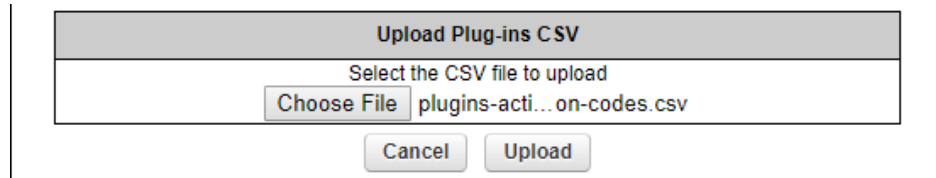

Figure 75. MANAGE PLUG-INS DIALOG (Upload Plug-ins CSV section)
7. Upload the *.CSV file to the unit by clicking the **Choose File** button in the **Upload Plug-ins CSV** section (Figure 75 (page 171)) and following the software prompts.